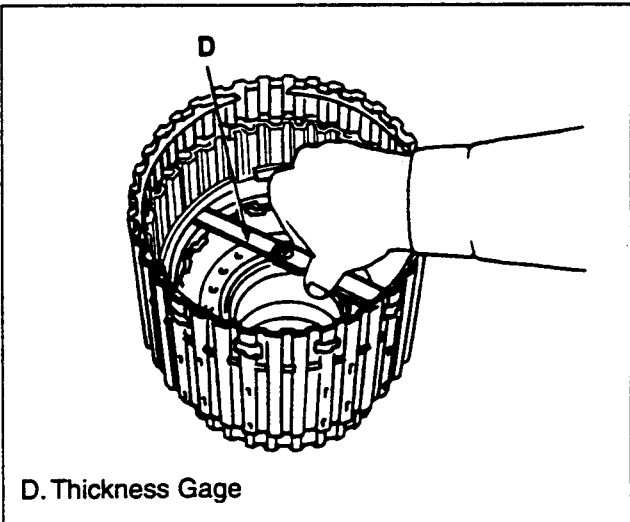

Figure 161. Clearance Check
6. After the operation check, measure the clearance between the retaining plate and snap ring with a thickness gage (figure 161).